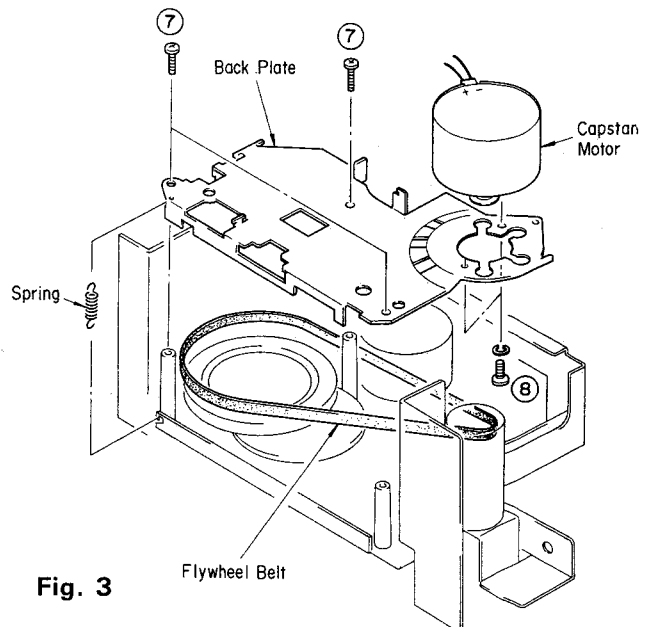

Fig. 3
- a. Remove 3 screws ( ⑦ ) in Fig. 3 and then remove the back plate.
- b. Remove 2 screws ( ⑧ ) in Fig. 3 and then remove the Capstan Motor